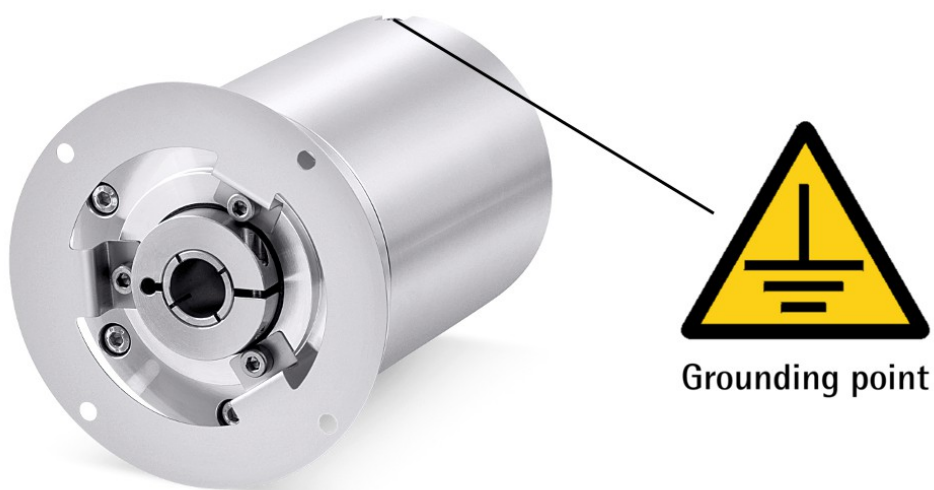

Figure 2 - Electrical connection and grounding point
6.5 Ground connection (Figure 1 and Figure 2)
connection as close as possible to the device. We suggest using the ground point provided in the enclosure (see Figure 1 and Figure 2).